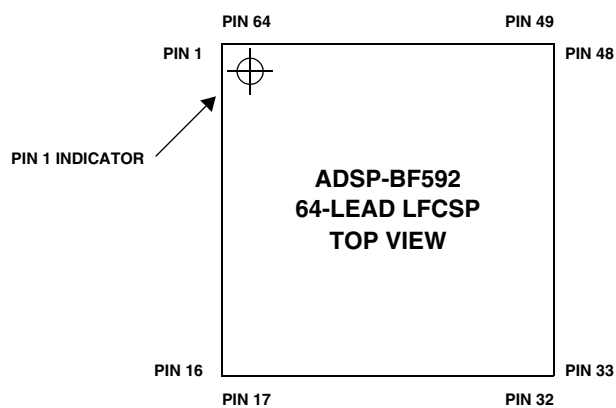

Figure 43. 64-Lead LFCSP Lead Configuration (Top View)
* Lead no. 65 is the GND supply (see Figure 43 and Figure 44) for the processor (6.2 mm × 6.2 mm); this pad **must** connect to GND.
* Pin no. 65 is the GND supply (see Figure 43 and Figure 44) for the processor (6.2 mm × 6.2 mm); this pad **must** connect to GND.
Figure 43 shows the top view of the LFCSP lead configuration.